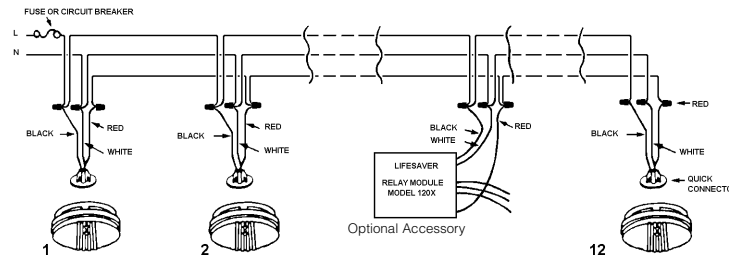

FIGURE 1 INTERCONNECT WIRING DIAGRAM
- Figure 1 illustrates interconnection wiring. Improper connection will result in damage to the alarm, failure to operate, or a shock hazard.